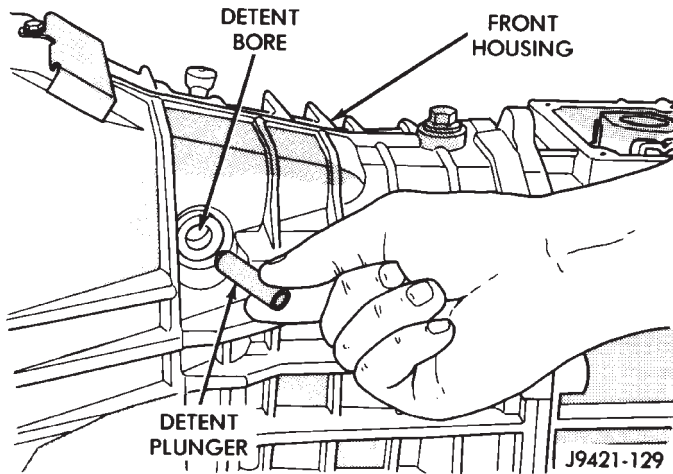

Fig. 126 Installing Shift Shaft Detent Plunger
(13) Lubricate then install shift shaft detent plunger in housing bore (Fig. 126). Lubricate plunger with petroleum jelly or gear lubricant. **Be sure plunger is fully seated in detent notch in shift shaft.**